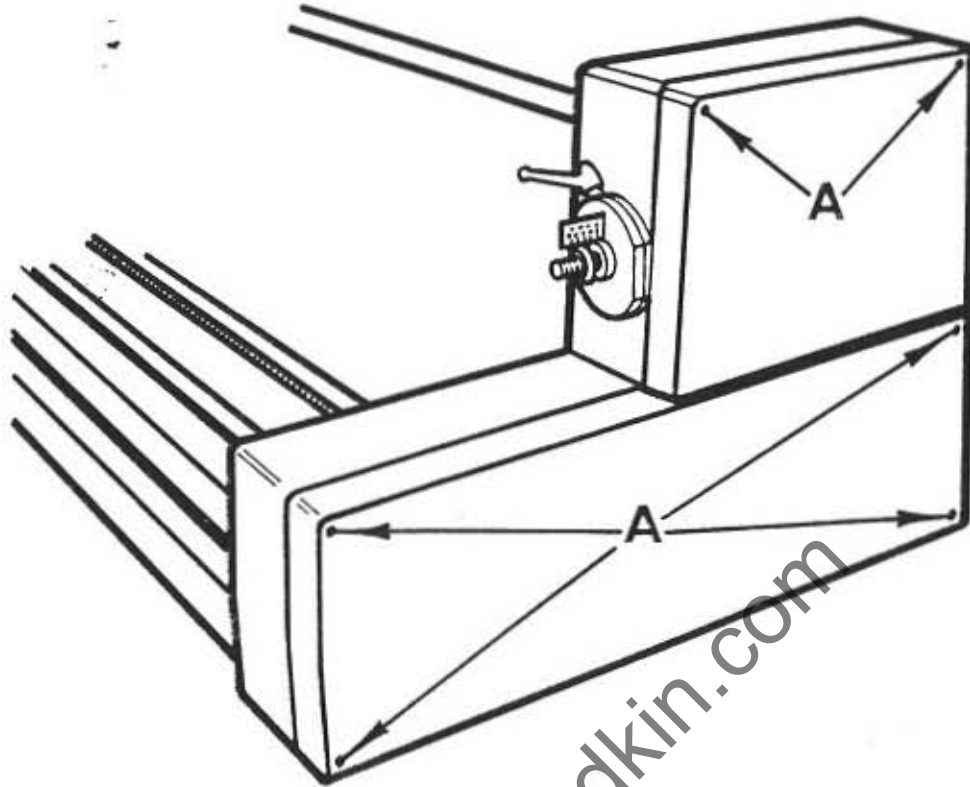

Fig 7
1. Remove six screws "A" in FIG 7 from two backshaft drive covers "B" remove covers.